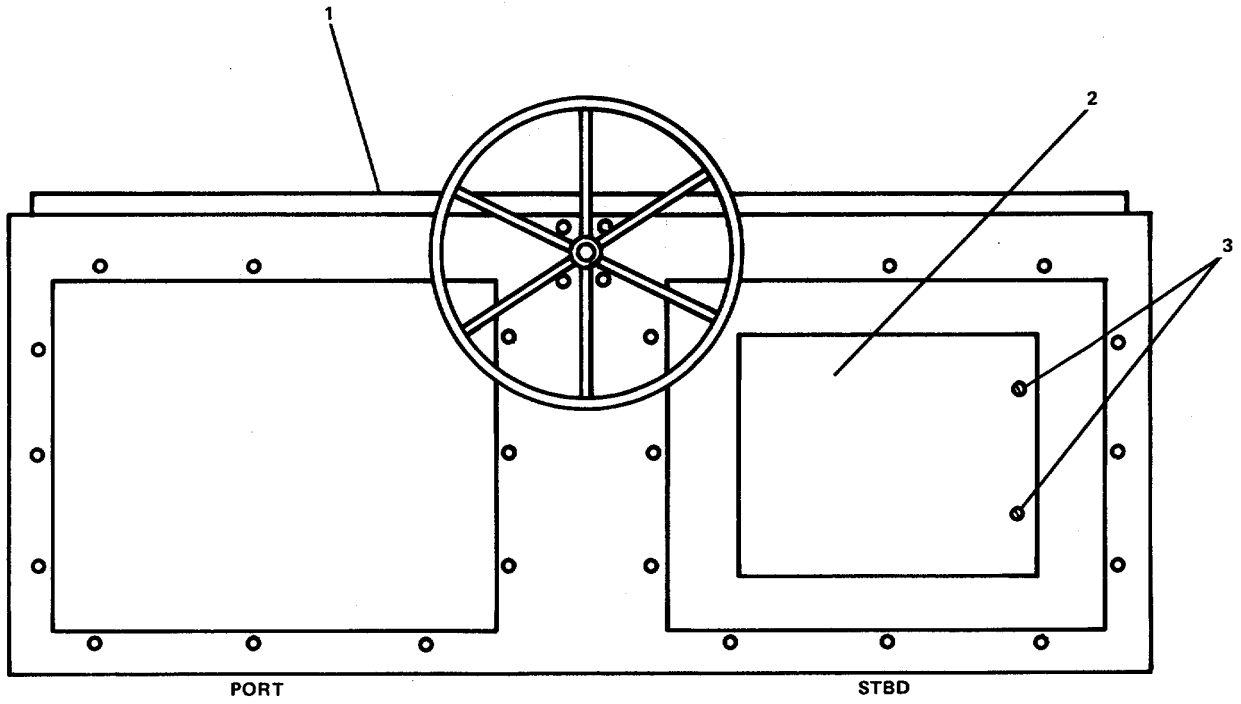

FIGURE 3-103. *Pilothouse Control Console.*
- a. Loosen two latching screws (3, Figure 3-103) securing starboard side access panel (2) to pilothouse control console (1).
- a. Install autopilot assembly (1) into control console and secure with four round head screws (2).
- c. Close access panel (2, Figure 3-103) on control console (1) and secure with two latching screws (3).
- d. Remove four screws (1) from front panel (2).
- b. Remove the two relays (6).
- c. Remove the green L.E.D. (8) and the red L.E.D. (7).
- d. Remove the knob and potentiometer (9).
- e. Remove the knob and potentiometer (10).